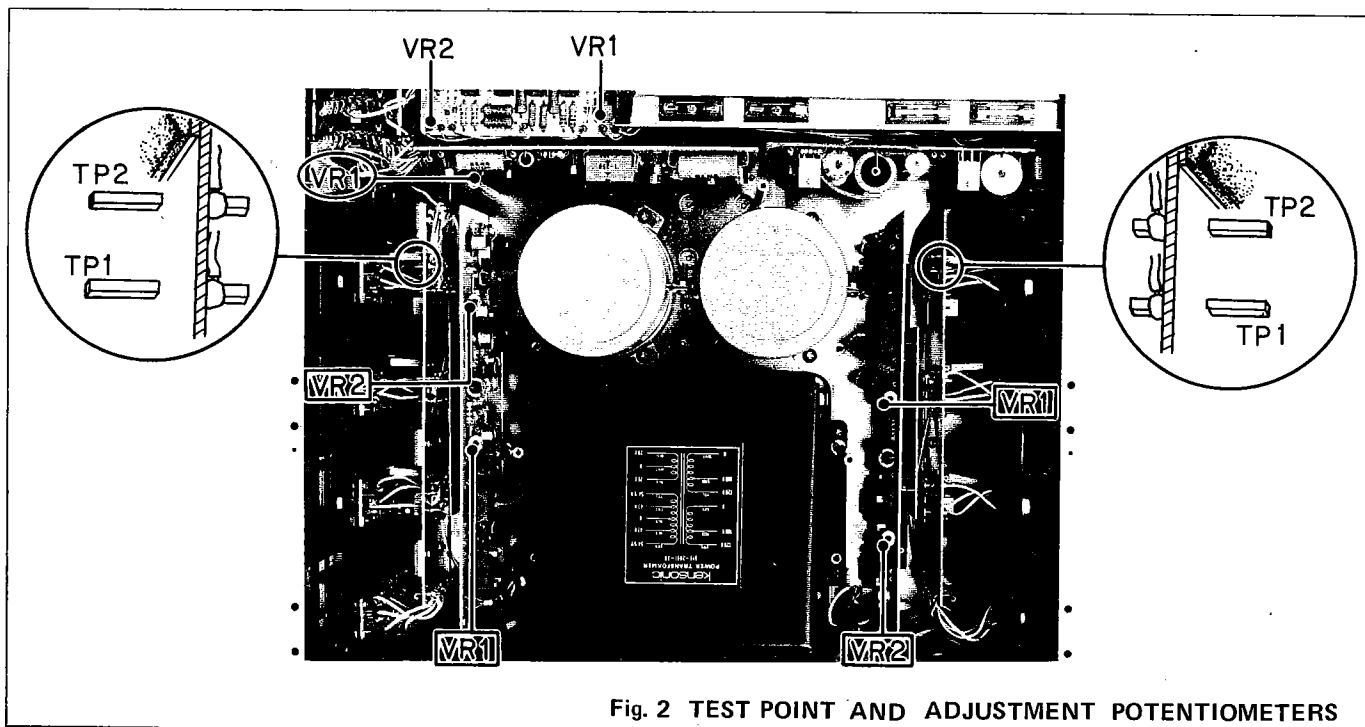

Fig. 2 TEST POINT AND ADJUSTMENT POTENTIOMETERS
3. With METER RANGE switch set at "0dB" position, adjust VR1 (left channel) and VR2 (right channel) (see Fig. 2, top two adjustments) so that the Power Level meter indicates 0dB.
2. Turn the Protection Assembly (VR1) (Fig. 2, upper side control) to full clockwise position.
This amplifier is equipped with testing points TP1 and TP2 as shown in Fig. 2 for bias current adjustment. This current is calculated from the voltage that is measured across these test points, as follows:
3. Adjust Main Drive Assembly VR2 (see Fig. 2) so that the meter indicates 0.07V which represents a current flow of about 100mA. (Turning VR2 in counterclockwise direction increases the current flow.)
2. Switch power ON and, under no signal conditions adjust VR1 of the Main Drive Assembly (see Fig. 2) so that the meter indicates 0 volts.